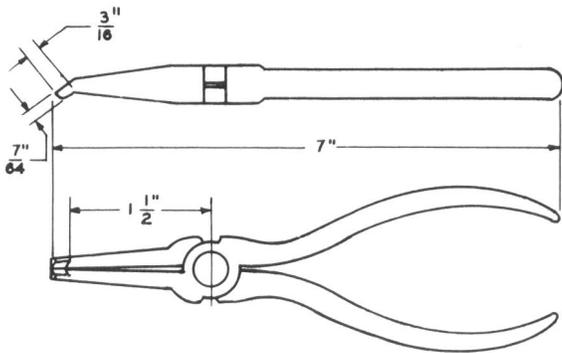

Fig. 12—KS-14641 Contact Cutting Pliers
2.12 KS-14641: The KS-14641 tools are contact cutting pliers (Fig. 12) which form a part of the 1013A tool kit. These tools are used in cutting contact metal tape after being welded on movable springs of wire-spring relays.